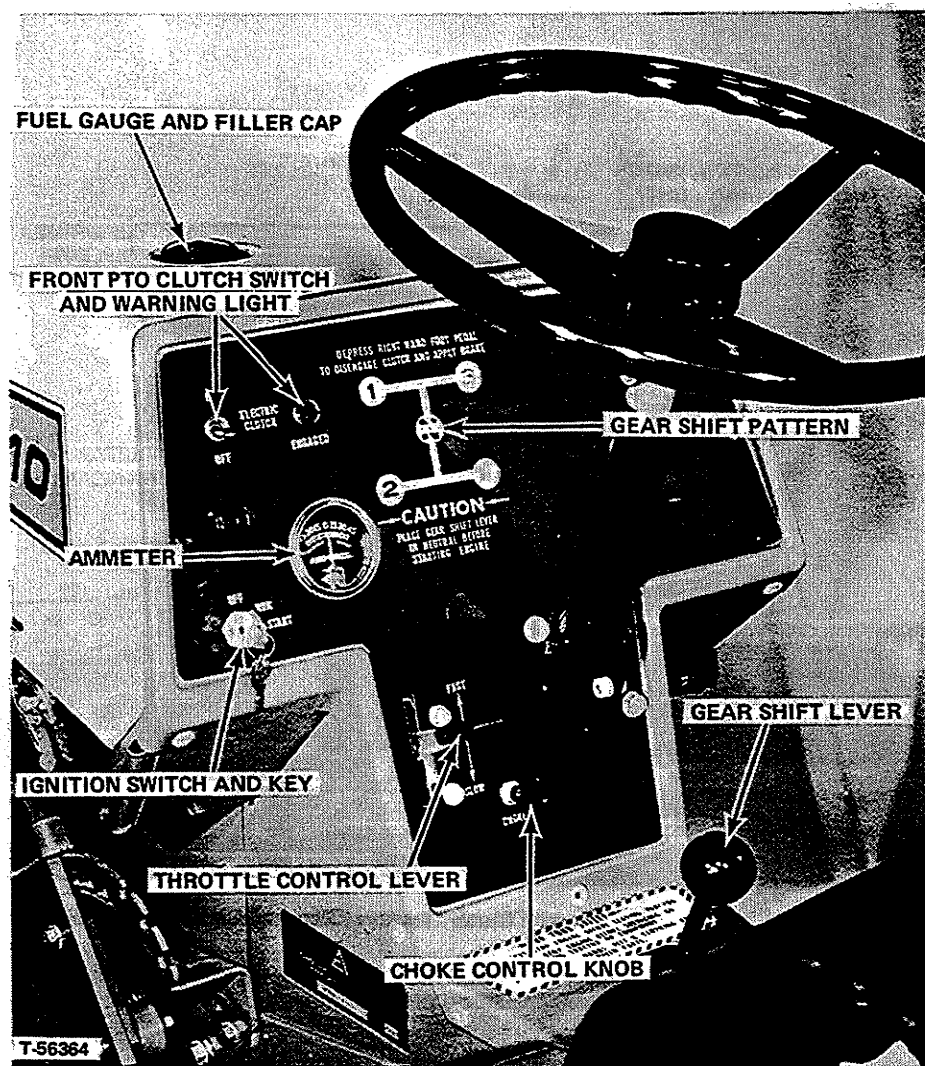

FIGURE 1 - Controls - Model 410 Standard 3 Speed Transmission
1. IGNITION SWITCH AND KEY (Figure 1)
2. CHOKE CONTROL KNOB (Figure 1)
3. THROTTLE CONTROL LEVER (Figure 1)
4. FRONT PTO CLUTCH SWITCH AND WARNING LIGHT (Figure 1)
5. AMMETER (Figure 1)
6. FUEL GAUGE AND FILLER CAP (Figure 1)
GEAR SHIFT LEVER (Figure 1)
The gear shift pattern is shown on the tractor control panel (Figure 1). To shift transmission gears the tractor movement must be stopped and the clutch brake pedal must be fully depressed. The gear shift lever must be in the center of the neutral position for engine starter to operate.
2. On 3 speed transmission tractors and shuttle clutch tractors: Place gear shift lever in neutral and front PTO clutch switch in "Off" position to activate the interlock safety switches (Figures 1 and 2).